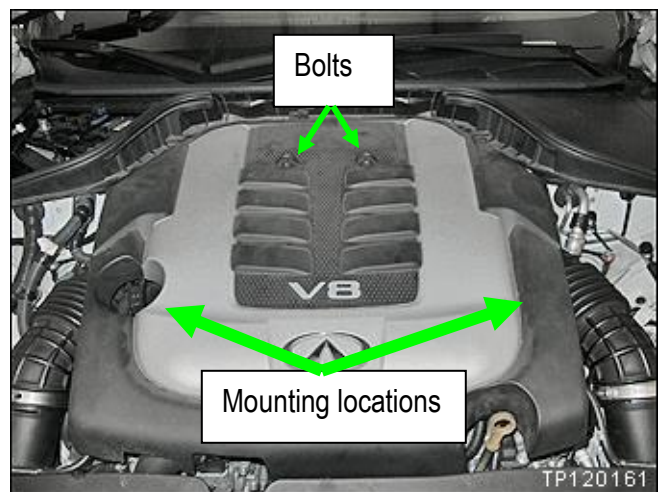

Figure 1m
- b. Use hand pressure to carefully pull UP at the mounting locations shown in Figure 1m.